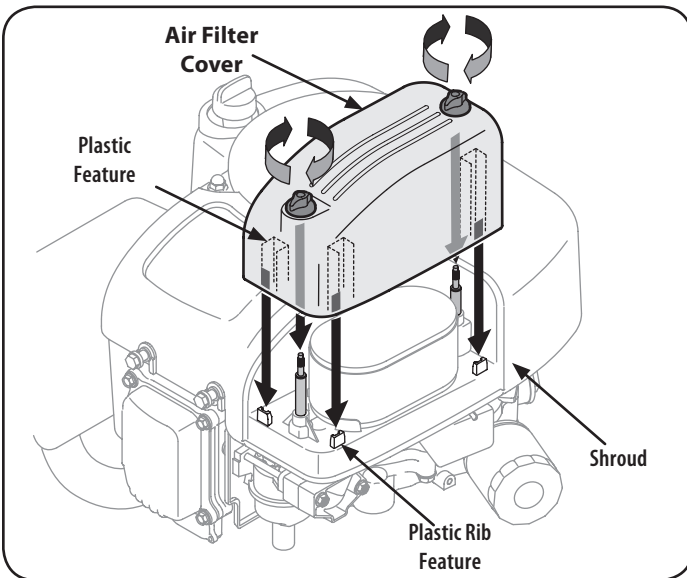

Figure 34
7. Attach the air filter cover, making sure to align plastic rib features on the shroud to the plastic features on the air filter cover. See Figure 34. Turn thumb screws clockwise until snug. Check for any misalignment.